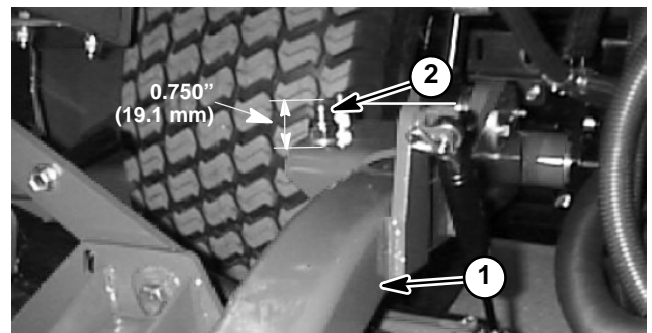

Figure 3
A. Assemble height-of-cut chain u-bolt so that threaded portion of u-bolt extends 0.750" (19.1 mm) above mounting plate on lift arm (Fig. 3).